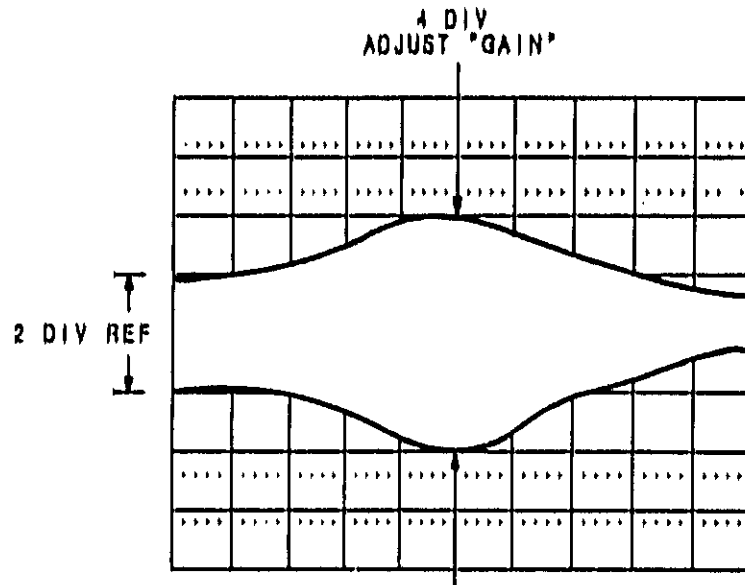

Figure 5-36b. Maximum Allowable ALC Gain Peak
5. Monitoring CHANNEL A, manually sweep the plug-in frequency range and note the frequency at which the highest gain peaking occurs. This point should measure less than four divisions p-p (see Figure 5-36b).